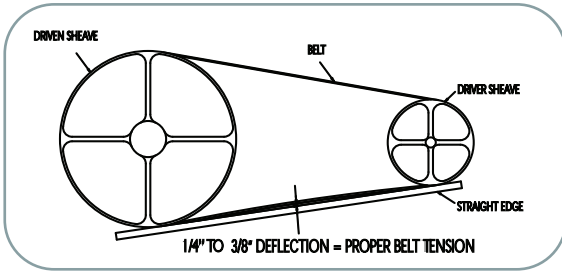
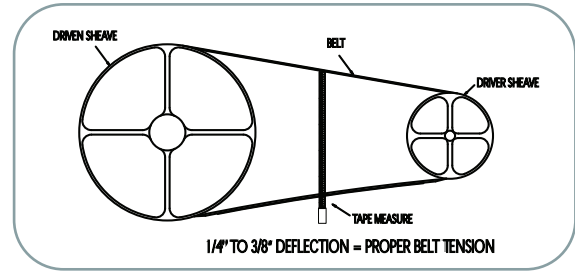

Figure 3a
Figure 3b
To properly adjust the belt tension, position the fan motor so that moderate pressure on the belt midway between the sheaves will produce the deflection shown in Figures 3a and 3b.
- o Place a straight edge along the belt from sheave to sheave as shown in Figure 3a, or use a tape measure as shown in Figure 3b, to measure belt deflection.
- o There is adequate belt tension if the belt deflects between 1/4" and 3/8" as shown in Figures 3a